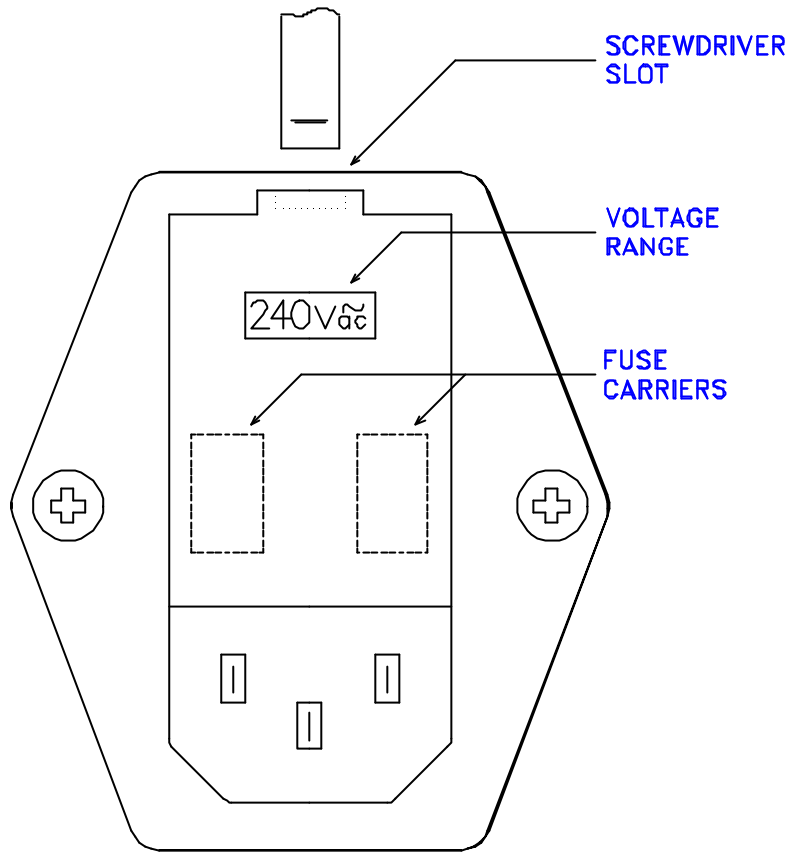

FIGURE B.1.2 VOLTAGE SETTING (I.T. MAINS)
The 9914 should be checked for supply setting, which is printed on a label at the rear of the machine. The actual setting, which is visible on the mains input socket (see Figure B.1.2) must match this, otherwise the setting must be changed and the fuse ratings checked.
- ii. insert a 5 mm flat-bladed screwdriver where illustrated (in Figure B.1.2) and hinge the panel open;